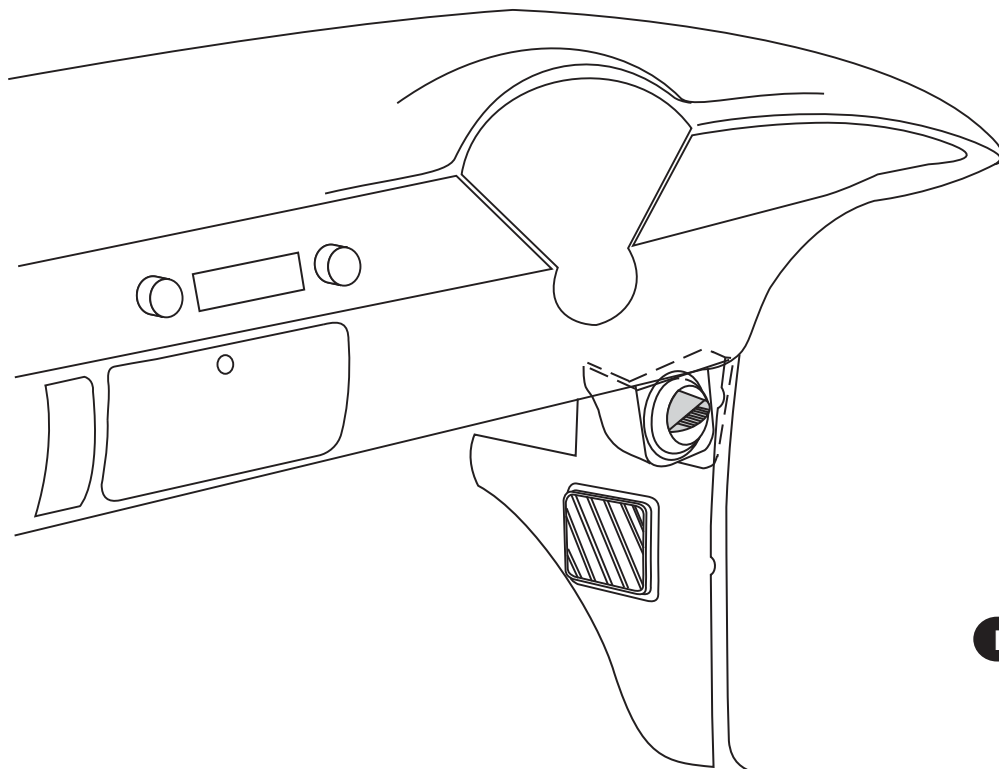

FIGURE 8
- ☐ SLIDE LOUVER UP TOWARDS BOTTOM OF DASH UNTIL THE LOUVER IS SEATED AGAINST DASH, AND SECURE TO KICK PANEL WITH SUPPLIED #8 x 1/2" PANHEAD SCREW. SEE FIGURE 8 ABOVE.